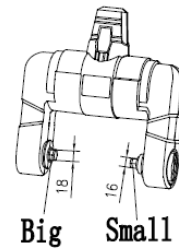

Fig.5
**Please note that the size of hexagonal inner hole at both ends of brush is different. Refer to Fig.5**